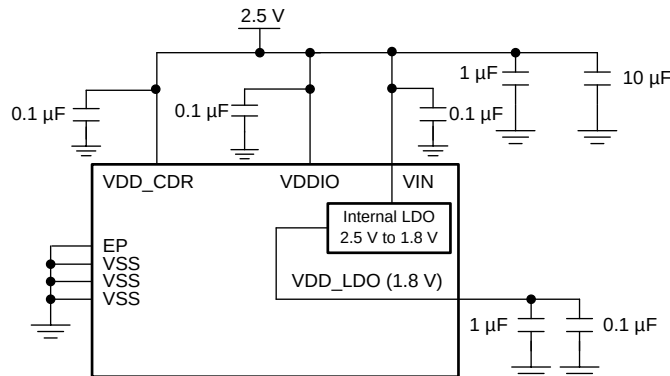

Figure 27. Typical Connection for Single 2.5 V Supply
- **Single Supply Mode (2.5 V):** This mode offers ease of use, with the internal circuitry receiving power from the on-chip 1.8 V regulator. In this mode, 2.5 V is applied to VDD_CDR, VIN, and VDDIO. See Figure 27 for more details.